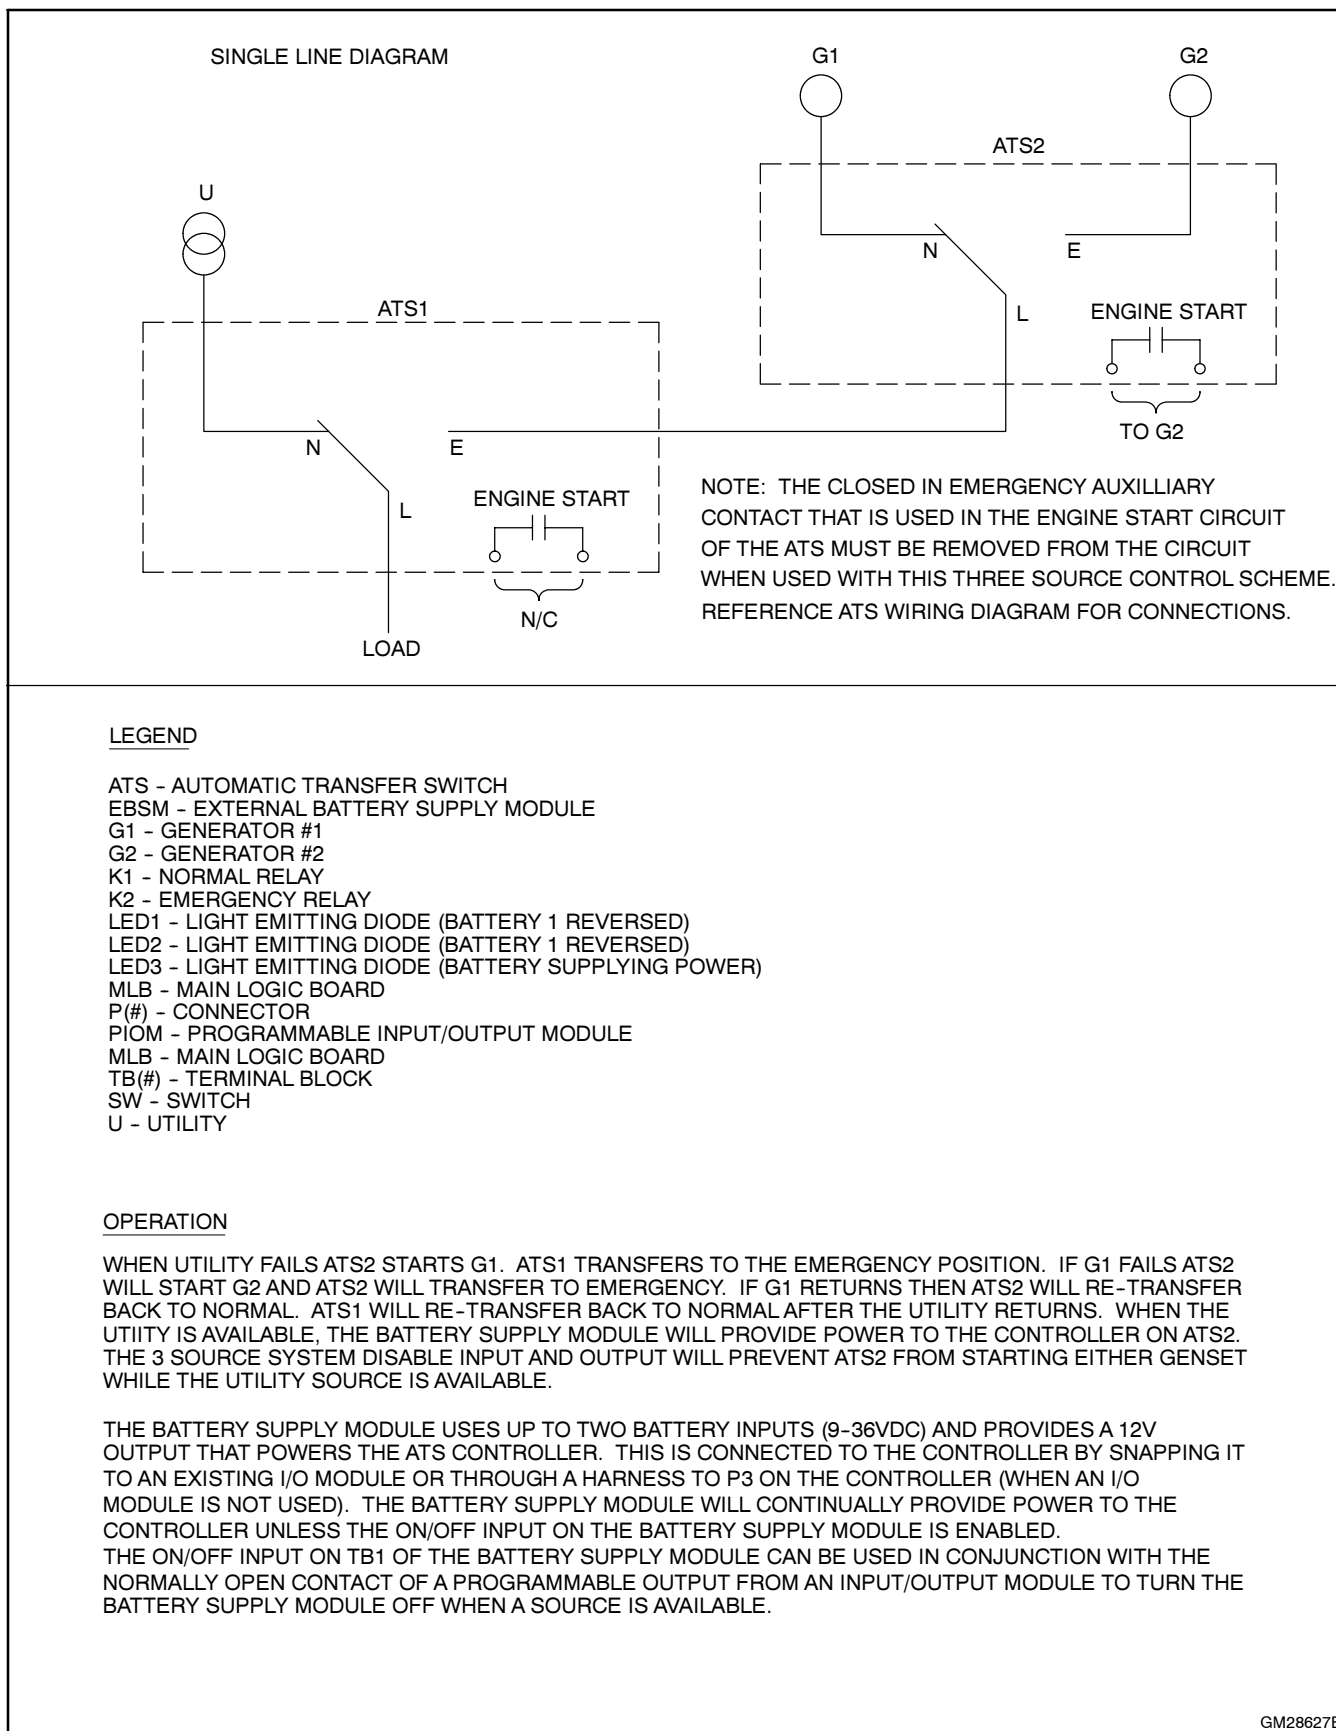
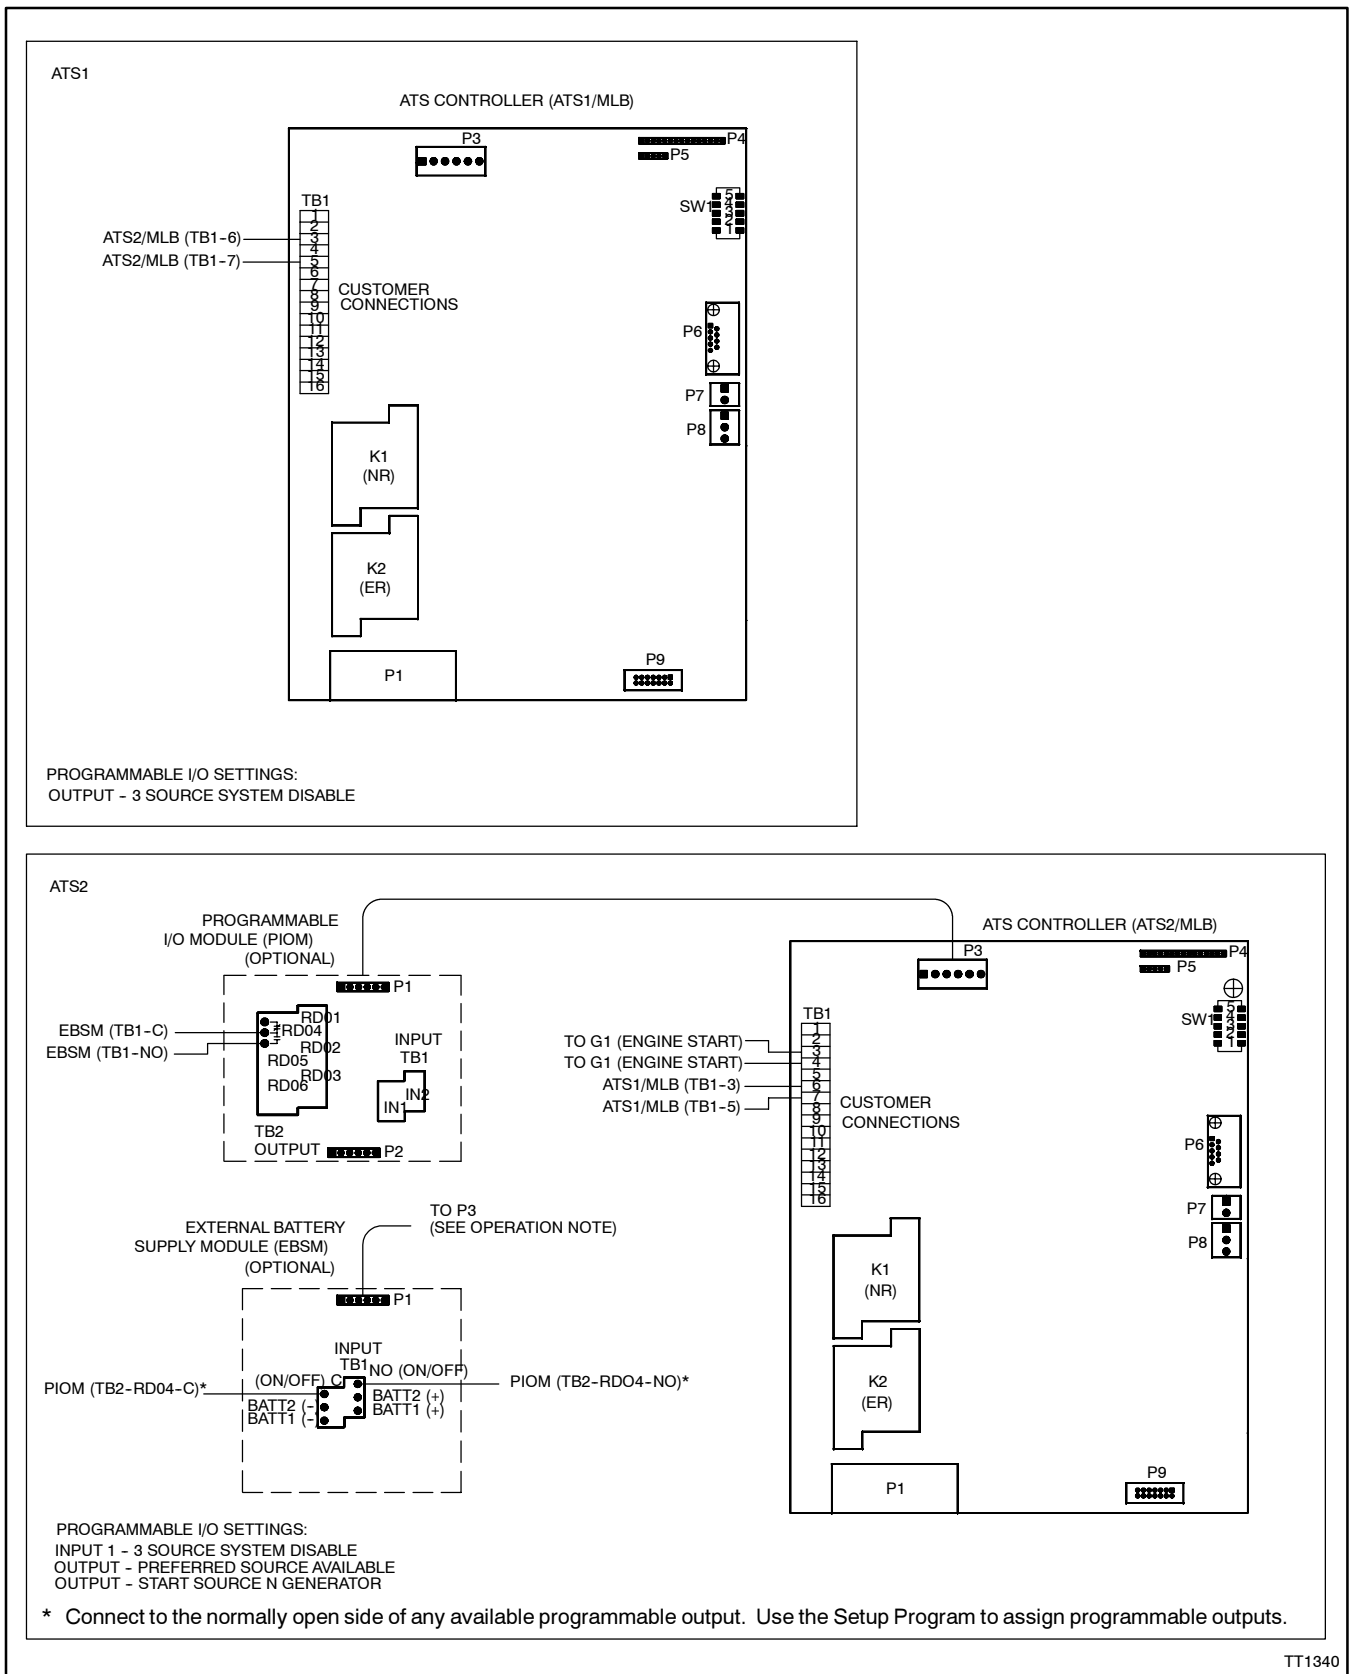

Figure 6-20 Three-Source System Transfer Switch and Source Connections
Figure 6-21 Input and Output Connections for Three-Source Systems
See Figure 6-20 and Figure 6-21 for connections during the following steps.
1. Connect the power sources to the transfer switches as described below. Refer to the transfer switch Operation/Installation manual or specification sheet for cable sizes. See Figure 6-20 for connections.
2. Three-source systems require the following input/output connections to control the engine start commands for generator sets 1 and 2. Observe the polarity of all connections shown in Figure 6-21. Use wire sizes from #14 AWG to #20 AWG for EBSM and I/O module connections.
- b. Connect the ATS1 main logic board programmable output terminals TB1-3 and TB1-5 to ATS2 main logic board programmable input 1 terminals TB1-6 and TB1-7 as shown in Figure 6-21. This I/O connection will be set to “Three-Source System Disable.”